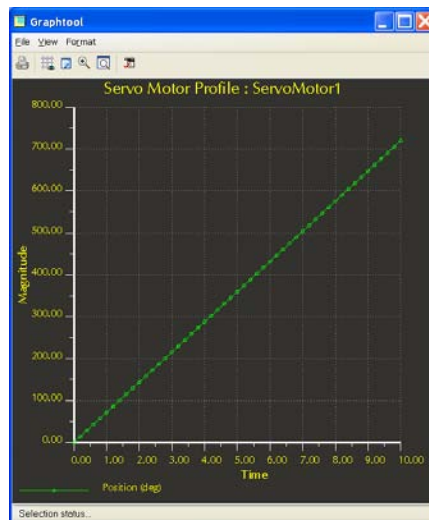

Figure 4
- f) Select the **Position** check box and click . The plot shows that the servo motor will go through two full rotations in 10 seconds as shown in figure 4.